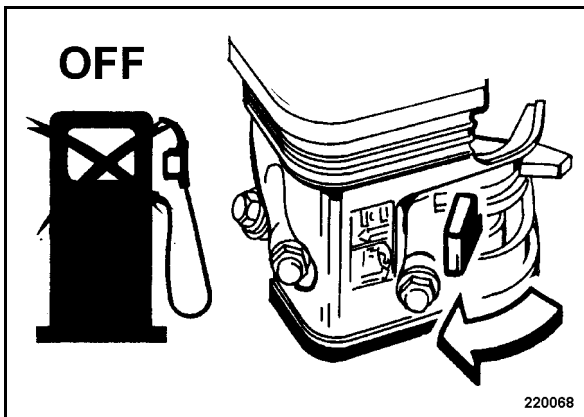

Fig. 29
- Close the fuel cock (Fig. 29).